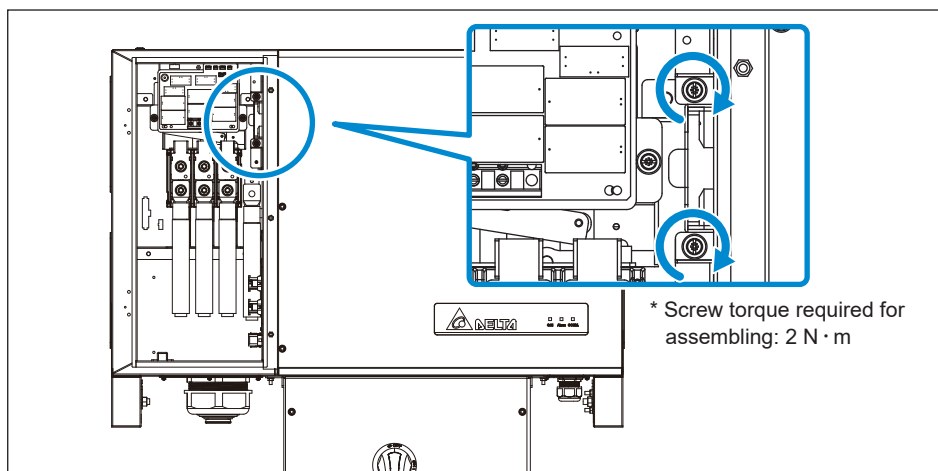

Figure 5-17: Internal Fan 2 location
- (2) Remove the two screws shown in **Figure 5-17**.
- (3) Disconnect the fan power connector.